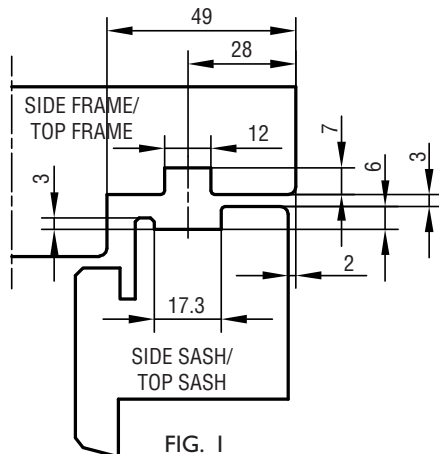

FIG. 1
21168+88: SIDE SASH & - FRAME AND TOP SASH & - FRAME ARE MADE WITH THROUGH-GOING GROOVES, SEE FIGURE 1.
21167: IF THE TOP SASH IS MADE WITH GROOVE, FIG. 1, FIRST PLACE THE SMALL MOUNTING BRACKETS IN EACH SIDE UNDER TOP BRACKET OF THE FITTING BEFORE FASTEN THE SCREWS.
- 21170-75: SIDE SASH & - FRAME AND TOP SASH & -FRAME ARE MADE WITH THROUGH-GOING GROOVES, SEE FIGURE 1.
21179-82: SIDE SASH & - FRAME ARE MADE WITH THROUGH-GOING GROOVES, SEE FIGURE 1.
21179-82: IF THE TOP SASH IS MADE WITH GROOVE, FIG. 1, FIRST PLACE THE SMALL MOUNTING BRACKETS IN EACH SIDE UNDER TOP BRACKET OF THE FITTING BEFORE FASTEN THE SCREWS.